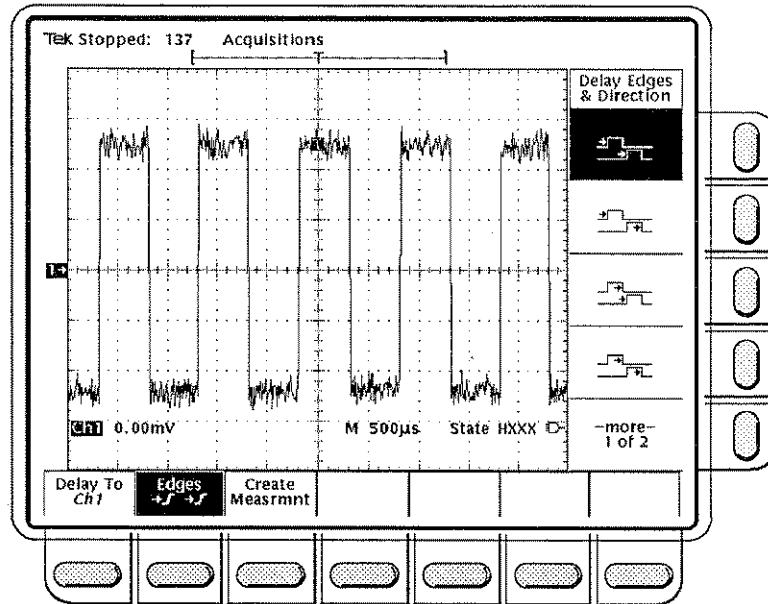

Figure 3-33: Measure Delay Menu – Edges
- Step 3:** On the Measure Delay menu, press the main menu button with the label **Edges**. A side menu of delay edges and direction will appear (Figure 3-33).